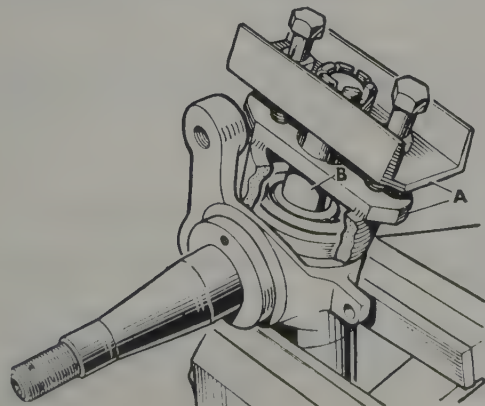

Fig. 11.5. Using an extractor (A) to disconnect a front suspension bottom balljoint (B)
- 10 A special ball joint extractor, part number 600962 will now be required to remove the ball joint from the swivel pillar. An illustration of this is shown in Fig. 11.5, and if the tool is not available, one can be made from a piece of tube. 'U' shaped angle iron and a piece of plain steel bar, suitably drilled and welded to the tube as shown.